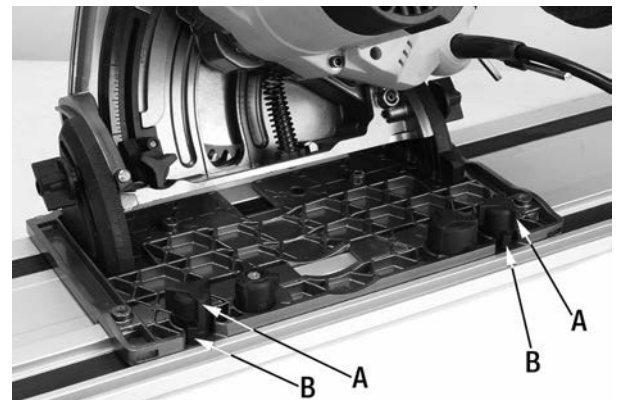

FIGURE 11
- 10) Use the fine adjustment knobs (A) Fig.11 to eliminate track play, see instructions on this page for specific instructions on how to eliminate track play.
- 1) Loosen both fine adjustment knobs (A) Fig.11, move both fine adjustment knob levers (B) completely to the left or the right. Tighten both fine adjustment knobs.